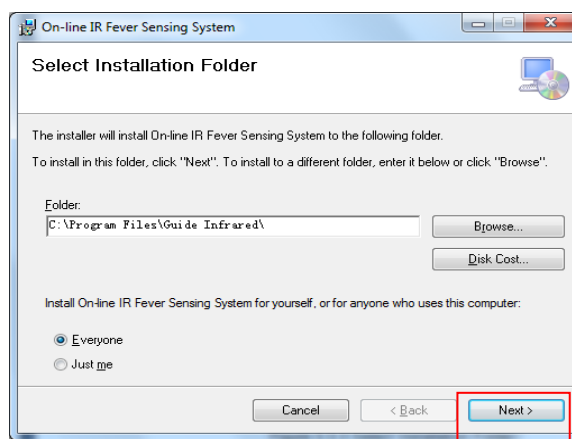

Fig. 3.3.3 Select installation folder
- Click [Next], click [Browse], and select the installation path, such as C: \ Program Files\ Guide Infrared\, shown in Fig. 3.3.3.